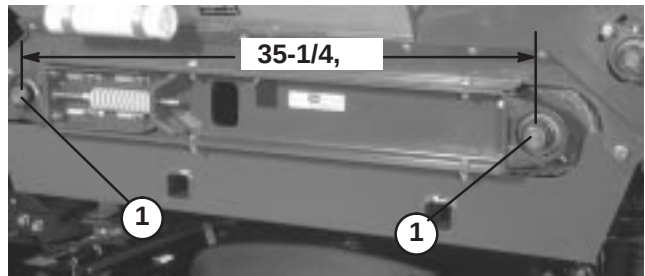

Figure 22
3. Check to insure that the center distance between conveyor belt roller shafts (Fig. 22), on each side of machine, are equal distance (approximately 35-1/4").